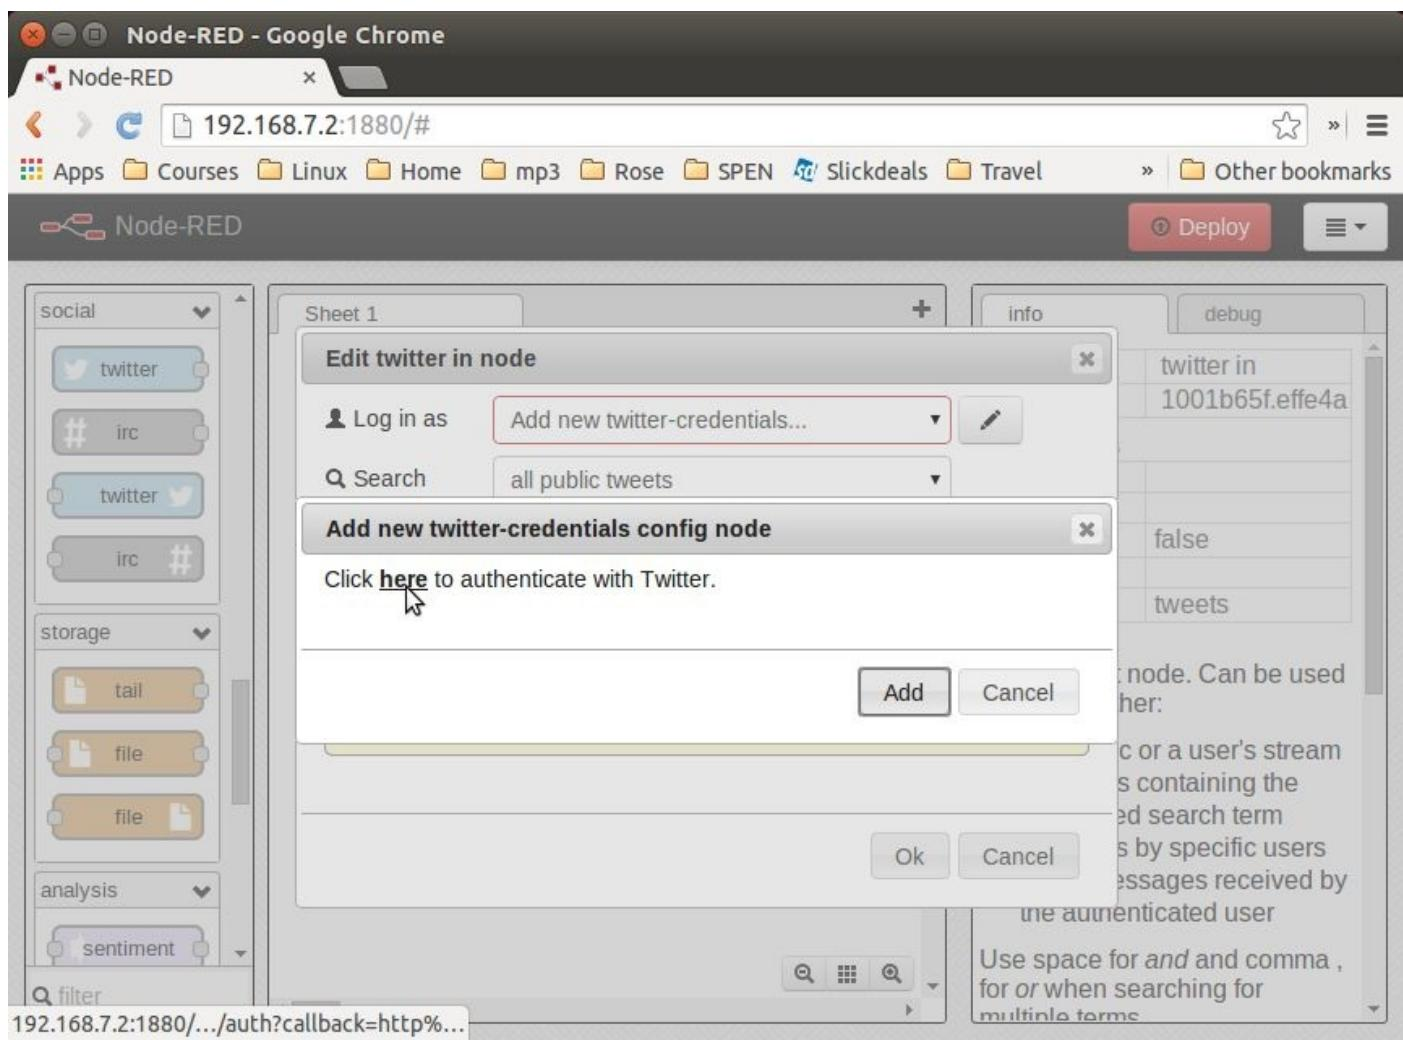

Figure 6-10. Node-RED twitter authorization, step 2
4. Click the pencil button to bring up the dialog box shown in Figure 6-10.
5. Click the “here” link, as shown in Figure 6-10, and you’ll be taken to Twitter to authorize Node-RED.